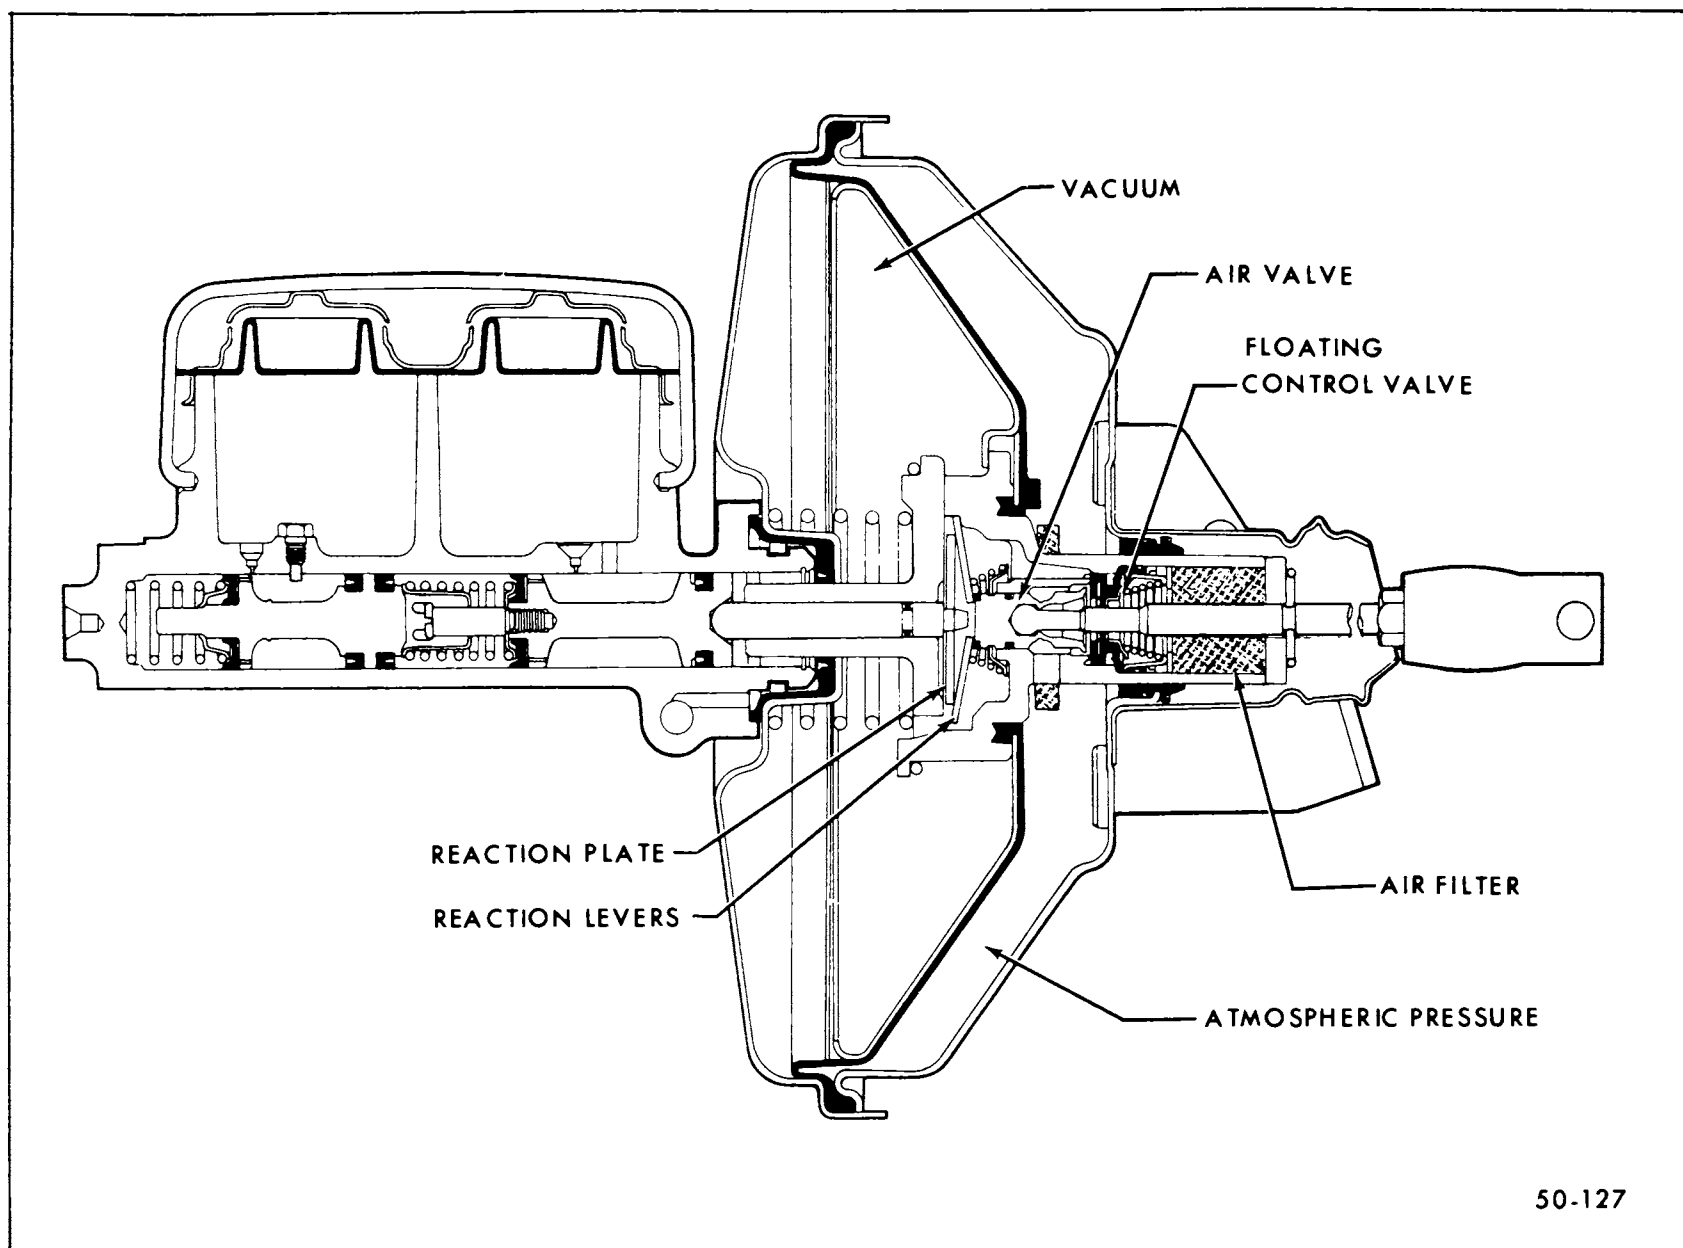

Figure 50-49—Power Brake Unit - Applying Position
2. Applying Position. As the pedal is depressed, the push rod carries the air valve away from the floating control valve. See Figure 50-49. The floating control valve will follow until it is in contact with the raised seat in the